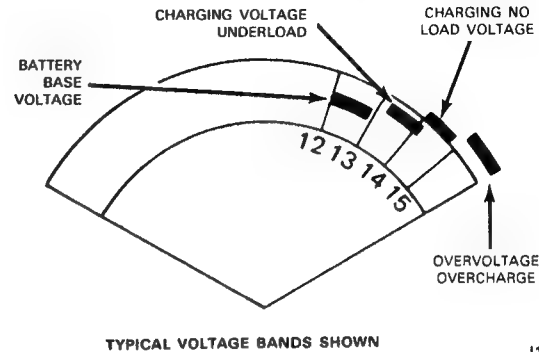

FIG. 8 Voltmeter Test Scale
6. Increase the engine speed to 2000 rpm. The voltmeter should indicate a minimum of 0.5 volt above the first recorded battery voltage (Fig. 8).